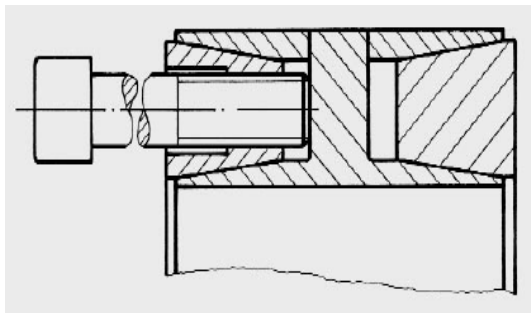

Fig. 2
2. Remove bolts adjacent to the jacking threads. The front thrust ring is released by jacking the bolts against the web of the inner ring (figure 2)